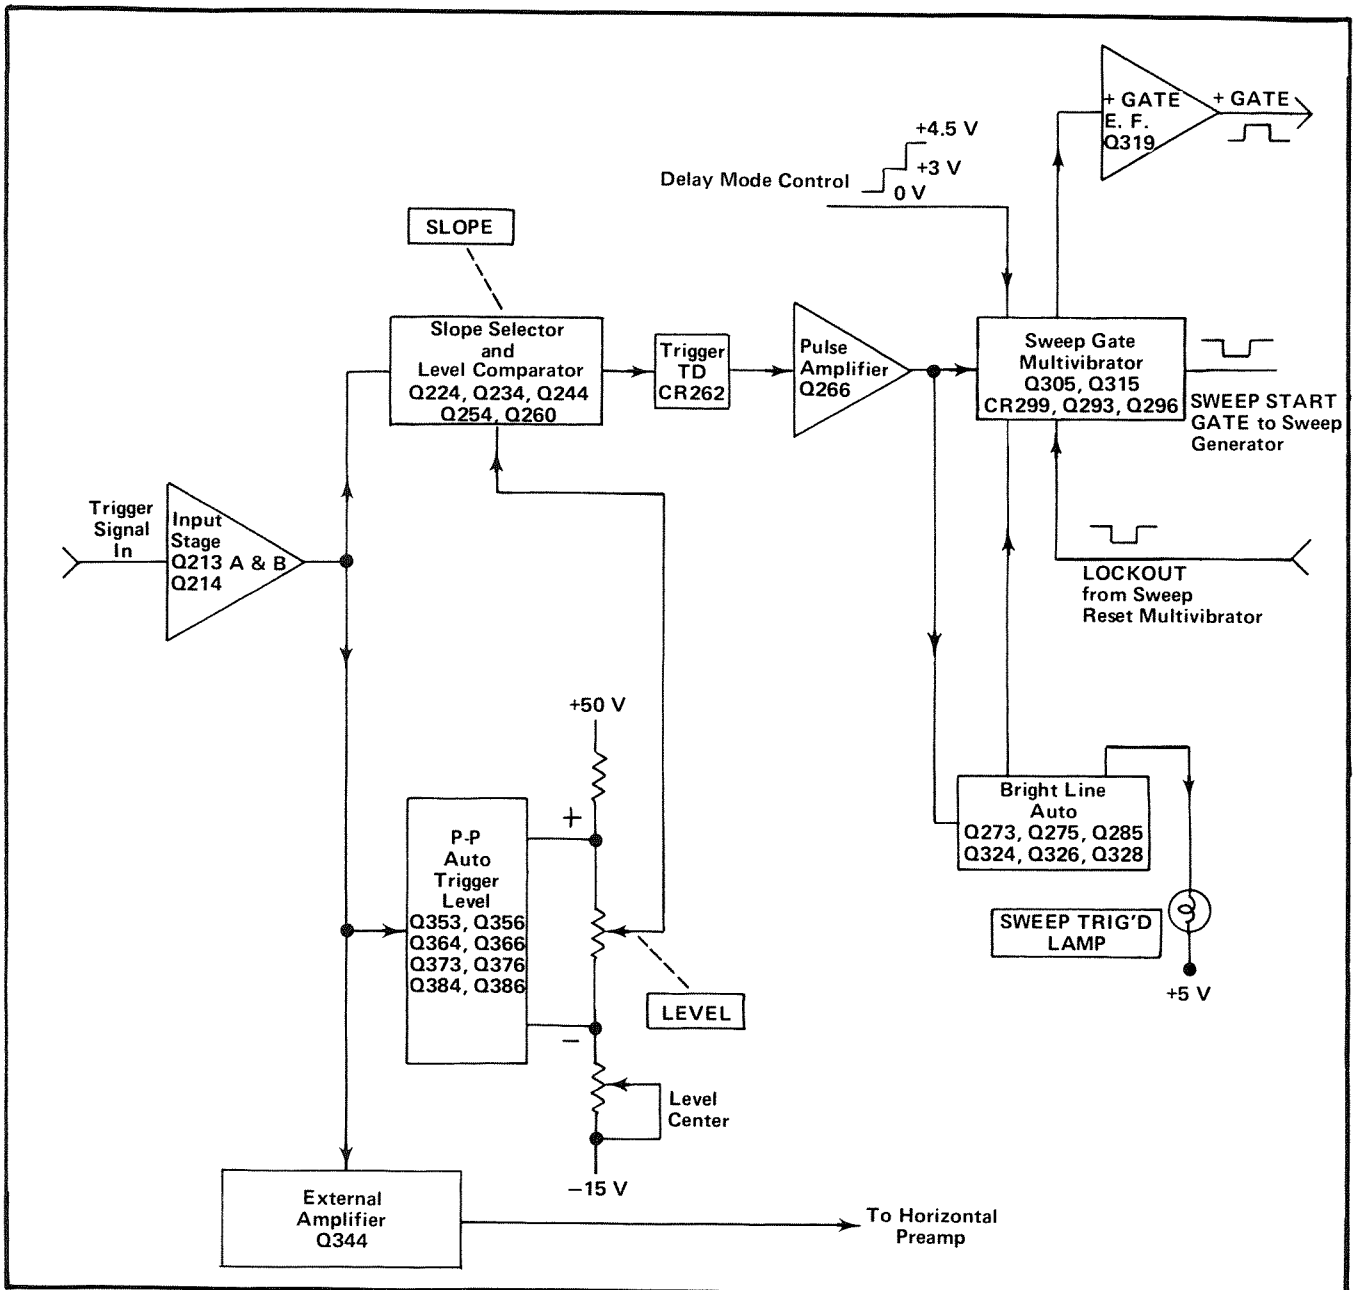

Fig. 3-3. Trigger Generator Block Diagram.
**General.** The Trigger Generator circuit produces trigger pulses to start the Sweep Generator circuit. These pulses are derived from either the internal trigger signal from the Vertical Deflection System, an external source, or from a sample of the line voltage applied to the instrument. Controls are provided in this circuit to select trigger LEVEL and SLOPE, and TRIGGERING MODE. Fig. 3-3 shows a detailed block diagram of the Trigger Generator circuit. Refer to the diagrams in Section 7 for complete circuit components.